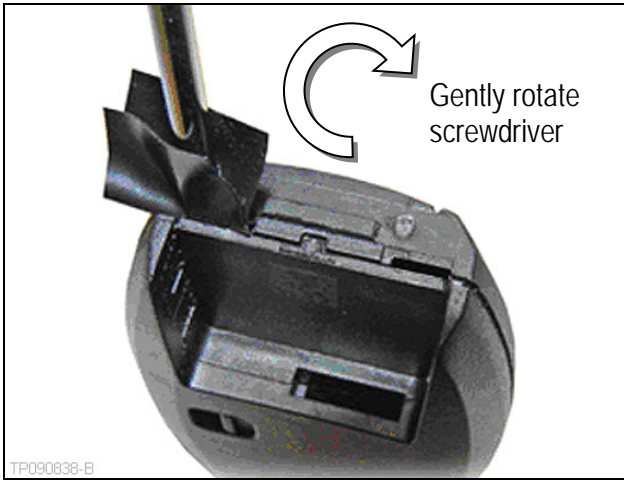

Figure 12
4. Gently rotate the screwdriver until the two cover pieces separate (Figures 12 and 13).